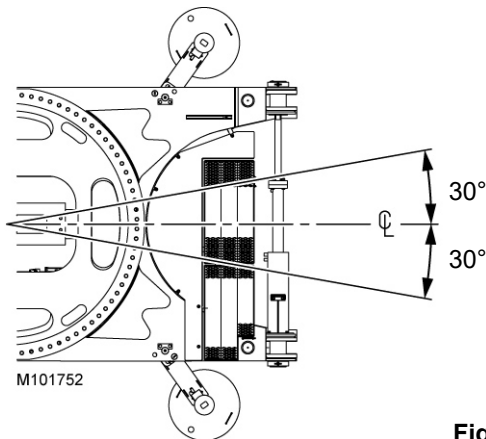

Figure 4-83
- Limit swing to 30° in either direction from center when lifting the second crawler (see Figure 4-83).
- Do not exceed swing limits (Figure 4-83).